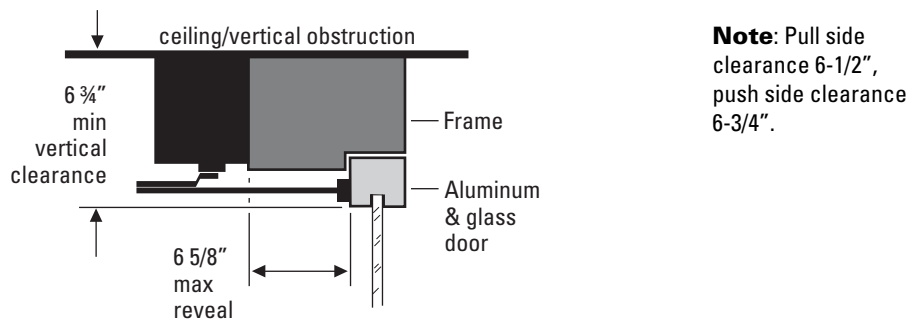

Figure 1.10 Side cut-away view of an aluminum and glass door showing the maximum reveal. Also this view shows the minimum vertical head clearance.
4. Make sure that a minimum clearance height of 6  $\frac{3}{4}$ " (172 mm) from ceiling to door mounting surface is unobstructed. See Figure 1.10 on page 1-13.